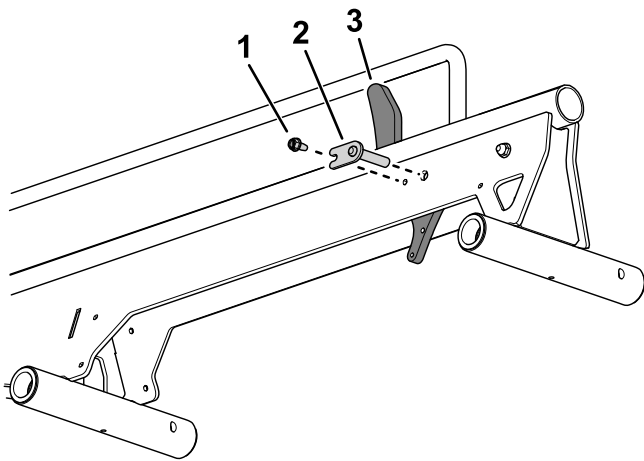

Figure 2
2. Use a pins and a hex-head screw to secure the wheel stop to the rail assembly (Figure 2)